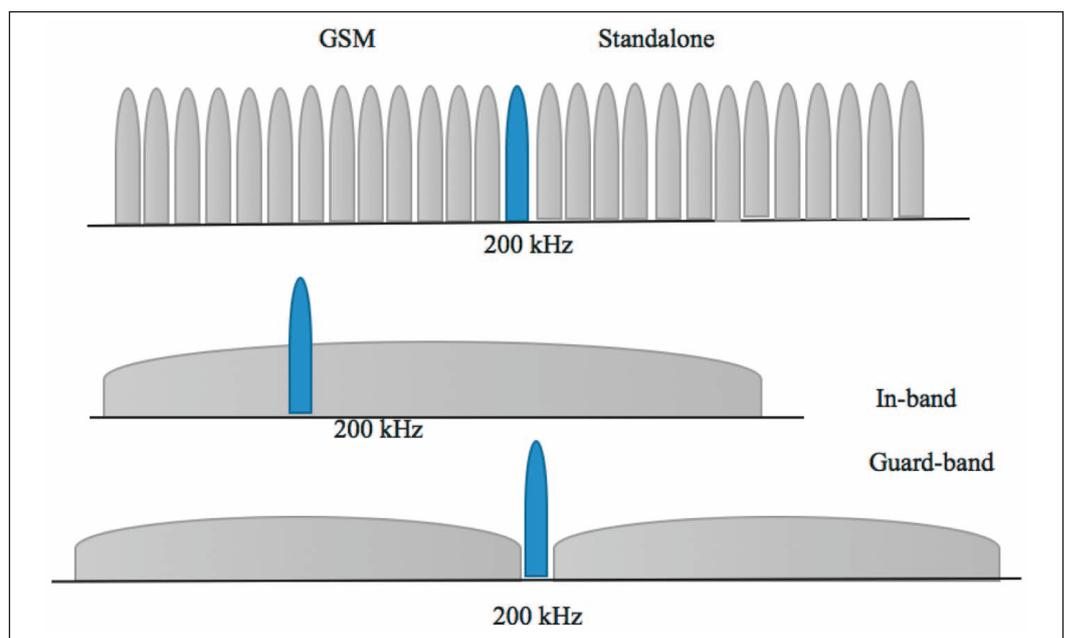

Figure 2: Deployment modes for NB-IoT
specifically on improved indoor coverage, low-cost devices (less than \$ 5 per module), long battery lifetime (more than 10 years), massive connectivity (supporting a large number of connected devices, around 50,000 per cell), and low latency (less than 10 msec). NB-IoT will enable operators to expand wireless capabilities to evolving businesses such as smart metering and tracking and will open more industry opportunities, such as Smart City and eHealth infrastructure. NB-IoT will efficiently connect these many devices using already established mobile networks and will handle small amounts of fairly infrequent two-way data securely and reliably. The standard utilizes a 180 kHz user equipment (UE) RF bandwidth for both downlink and uplink, enabling three different deployment modes, as shown in Figure 2.